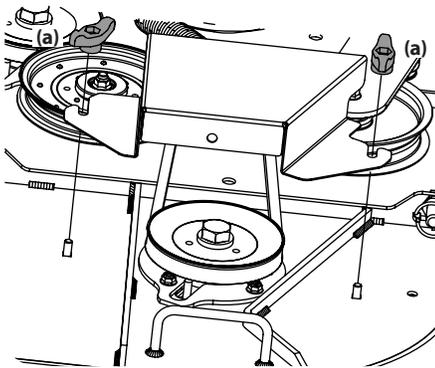

Figure 4-14
- Remove the wing knobs (a) securing the belt covers (b) to the deck. See Figure 4-14.